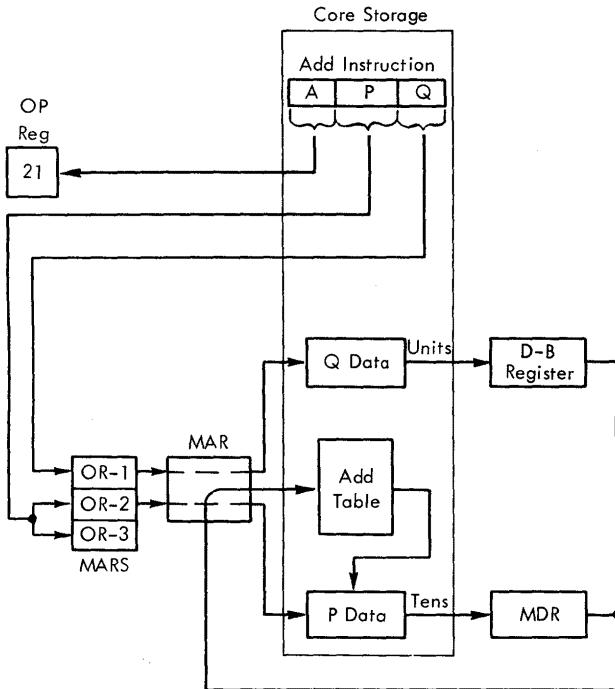

Figure 60. E Cycle of Add Operation
10. The sum (2) which is located at 00311 of the Add table, replaces the P hundreds digit.
- Figure 60 shows how OR-1 and OR-2 share MAR in providing locations of data in core storage. They are decremented since this is a digit-by-digit operation. OR-3 retains the P address for sum recompletion, if necessary.
Data flow for subtract is the same as that for add (Figure 60) except that the Q digits are complemented as they are routed from the Digit and Branch register to MAR.